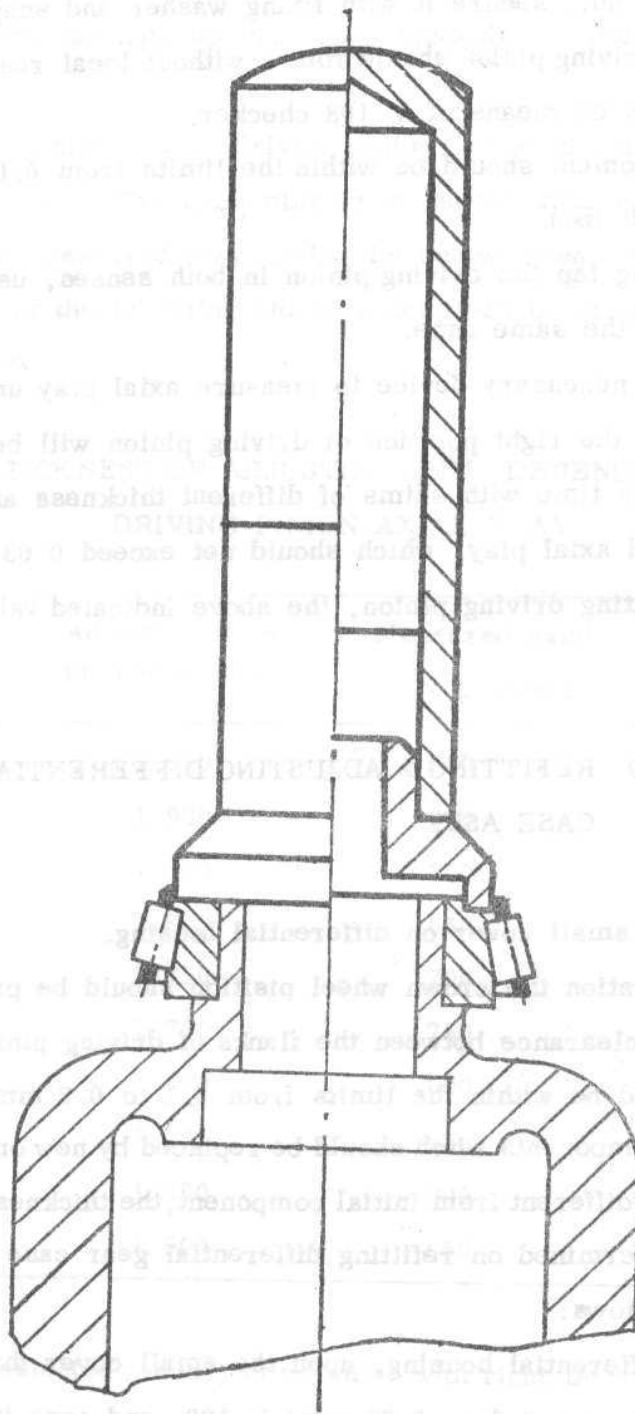

Fig. 4. 120. PRESSING DIFFERENTIAL CASE BEARING INNER RACE
- Fit on the differential gear case bearings, by means of S 129 hollow drift (see Fig. 4. 120).